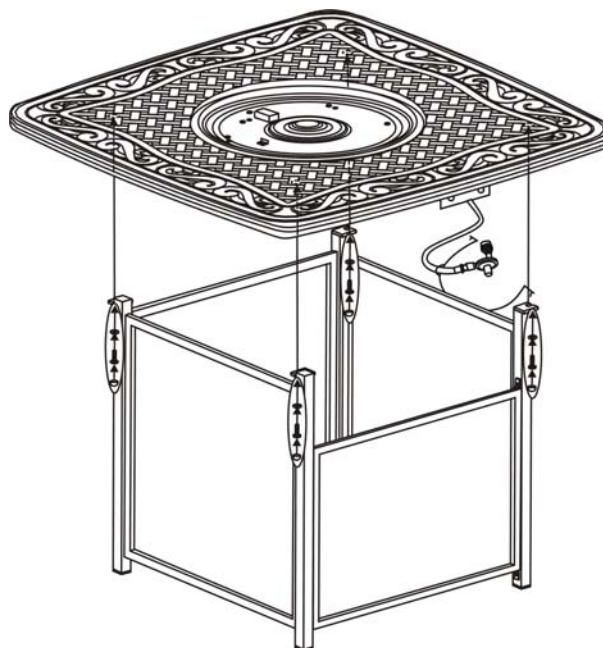

Figure 6
6. With the help of another person, carefully place the table top onto the table base. After making any necessary adjustments to the alignment of the table top and the assembled base, use four 1/4"x20 mm bolts and washers as shown in Figure 6. Guide the bolts through the holes in the base, into the pre drilled holes in the table top. **Do not tighten completely.**